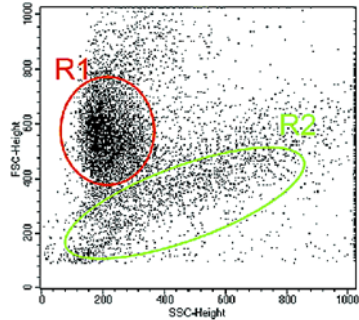
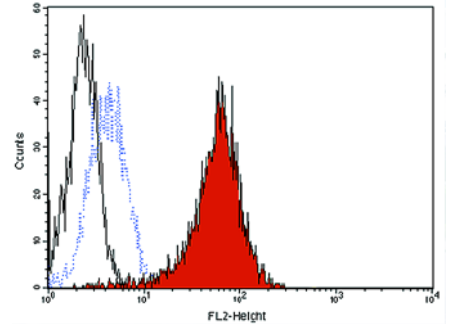

Fig 1
Fig 2
- Set gate on population to be measured (Fig. 1)
- Set up histogram view of fluorescence channel(s) to be measured. Adjust fluorescence level of channel(s) to be used, so that the bulk of the cells is in the first decade (Fig. 2)
- Fig 1: FSC vs. SSC plot. Intact cells are located in the gate R1 (red). Dead cells and debris are in the gate R2 (green).
- Fig 2: Overlay of measurements of population R1 from Fig.1. Black: Autofluorescence. Blue: Isotype control antibody. Red: Specific antibody.